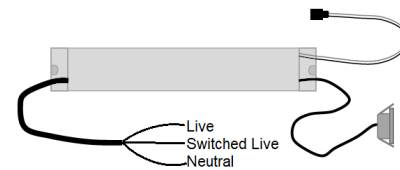

Fig. 2
- Connect the luminaire to the mains supply via a suitable junction box (not included) ensuring the correct polarity is observed: LS – Switched Live, L - Live, N - Neutral (see Fig. 2)